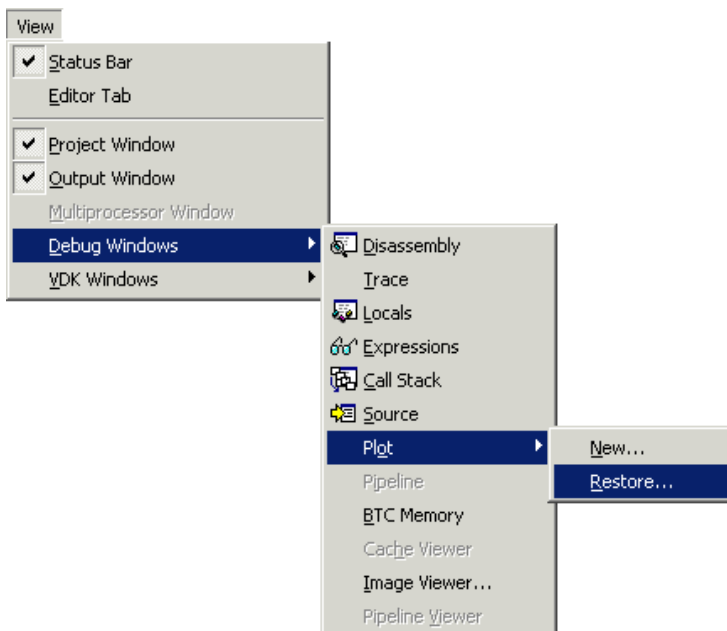

Figure 3-25. Plot Restore Menu Option
2. From the **View** menu, select **Debug Windows**, **Plot**, and then **Restore**, as shown in Figure 3-25.